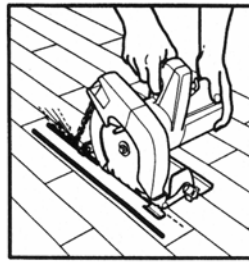

Figure 7-2
- B. Make a second cut inset 3/8" from tongue side running from end to end on the board to be removed. Figure 7-2.